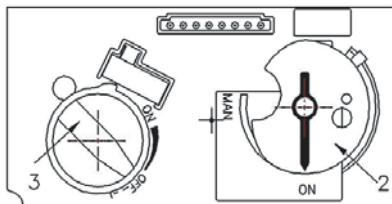
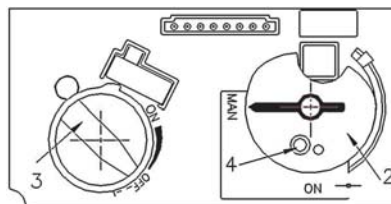
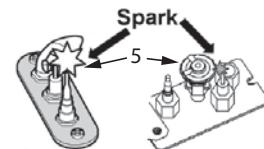

Fig 1
Fig 2
Fig 3
2. SET ON/OFF SWITCH (1) TO "OFF" POSITION.
- Wait five (5) minutes to clear out any gas, then smell for gas, including near the floor. If you smell gas, STOP! Follow "B" in the safety information above on this label. If you don't smell gas, go to the next step.
3. **AUTOMATIC IGNITION (fig. 1):** Locate the pilot (fig. 3.) inside of firebox at Left Hand side.
- ON/OFF switch (1) in ON position, MAN-knob (2) in ON position; set Flame Adjustment knob (3) to lowest setting (U);
- When the pilot is lit, the Flame Adjustment knob (3) will automatically rotate to the highest setting.
4. **MANUAL IGNITION (fig. 2):** With the window off, locate the pilot (fig. 3) inside of firebox at Left Hand side;
- ON/OFF switch (1) in ON position, MAN-knob (2) in MAN position;
- Set Flame Adjustment knob (3) to the lowest setting (U);
- Push down the metallic core (4) with a pen or similar instrument; this will establish the pilot gas flow;
- Light gas at the pilot (5) with a match;
- Continue holding down metal core (4) for about 10 seconds; after release, pilot should remain lit;
- If the pilot will not stay lit after several tries, turn the gas control knob (3) to "OFF" (U) and call your local service technician or gas supplier.
- Reinstall the window and set the MAN-knob (2) to "ON"; turn Flame Adjustment knob (3) up (U) or down manually or use the up/down 'flame' buttons on the remote control handset to adjust the flame height.